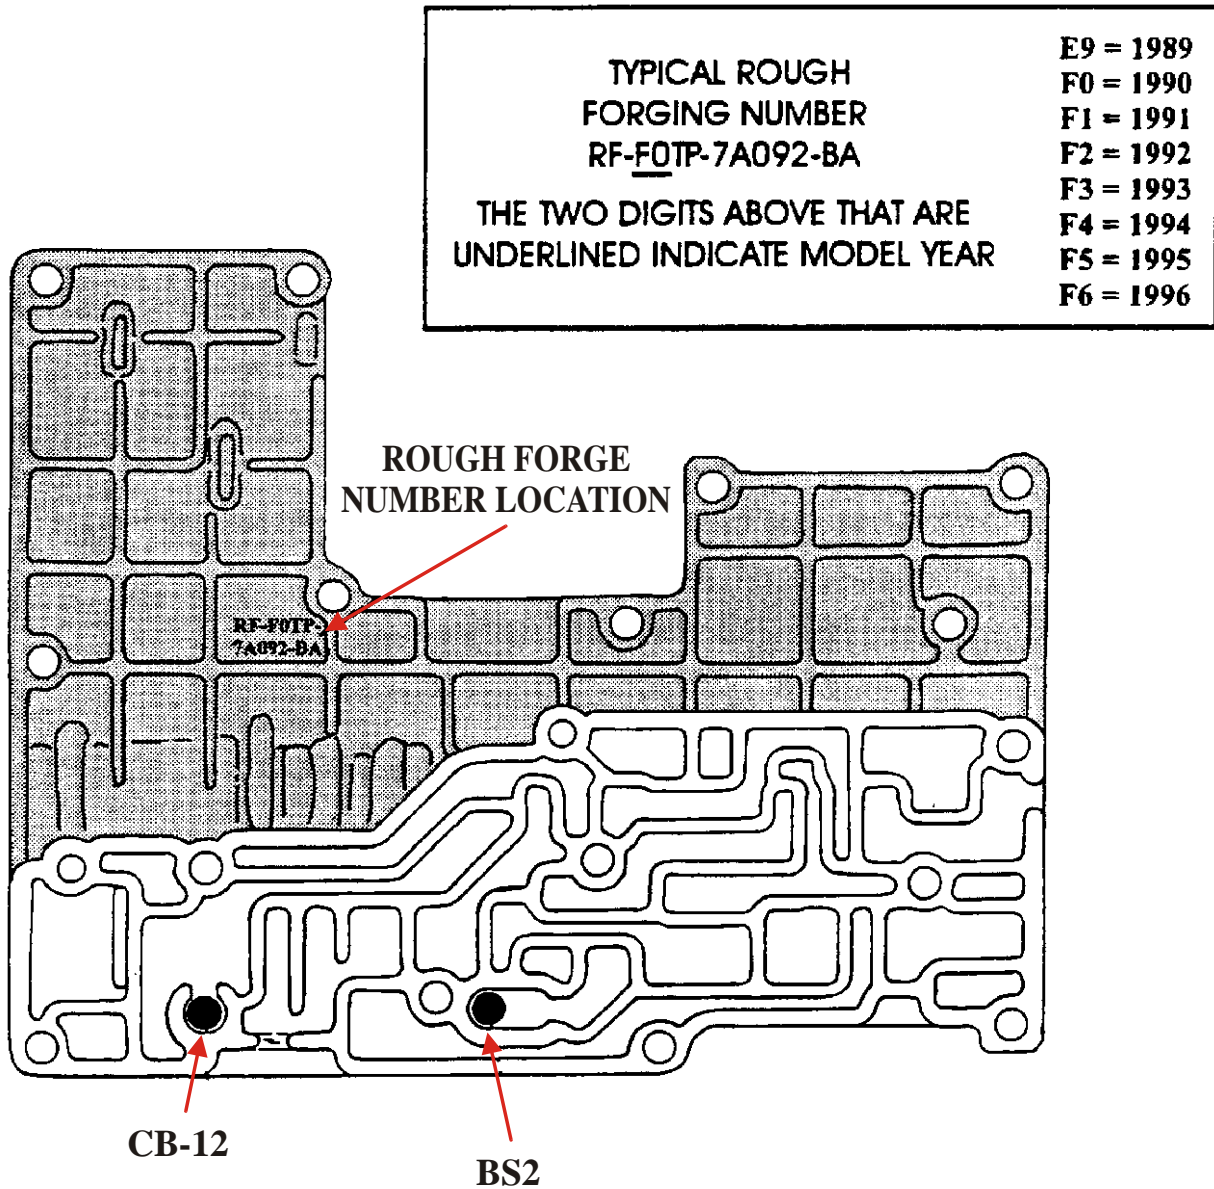
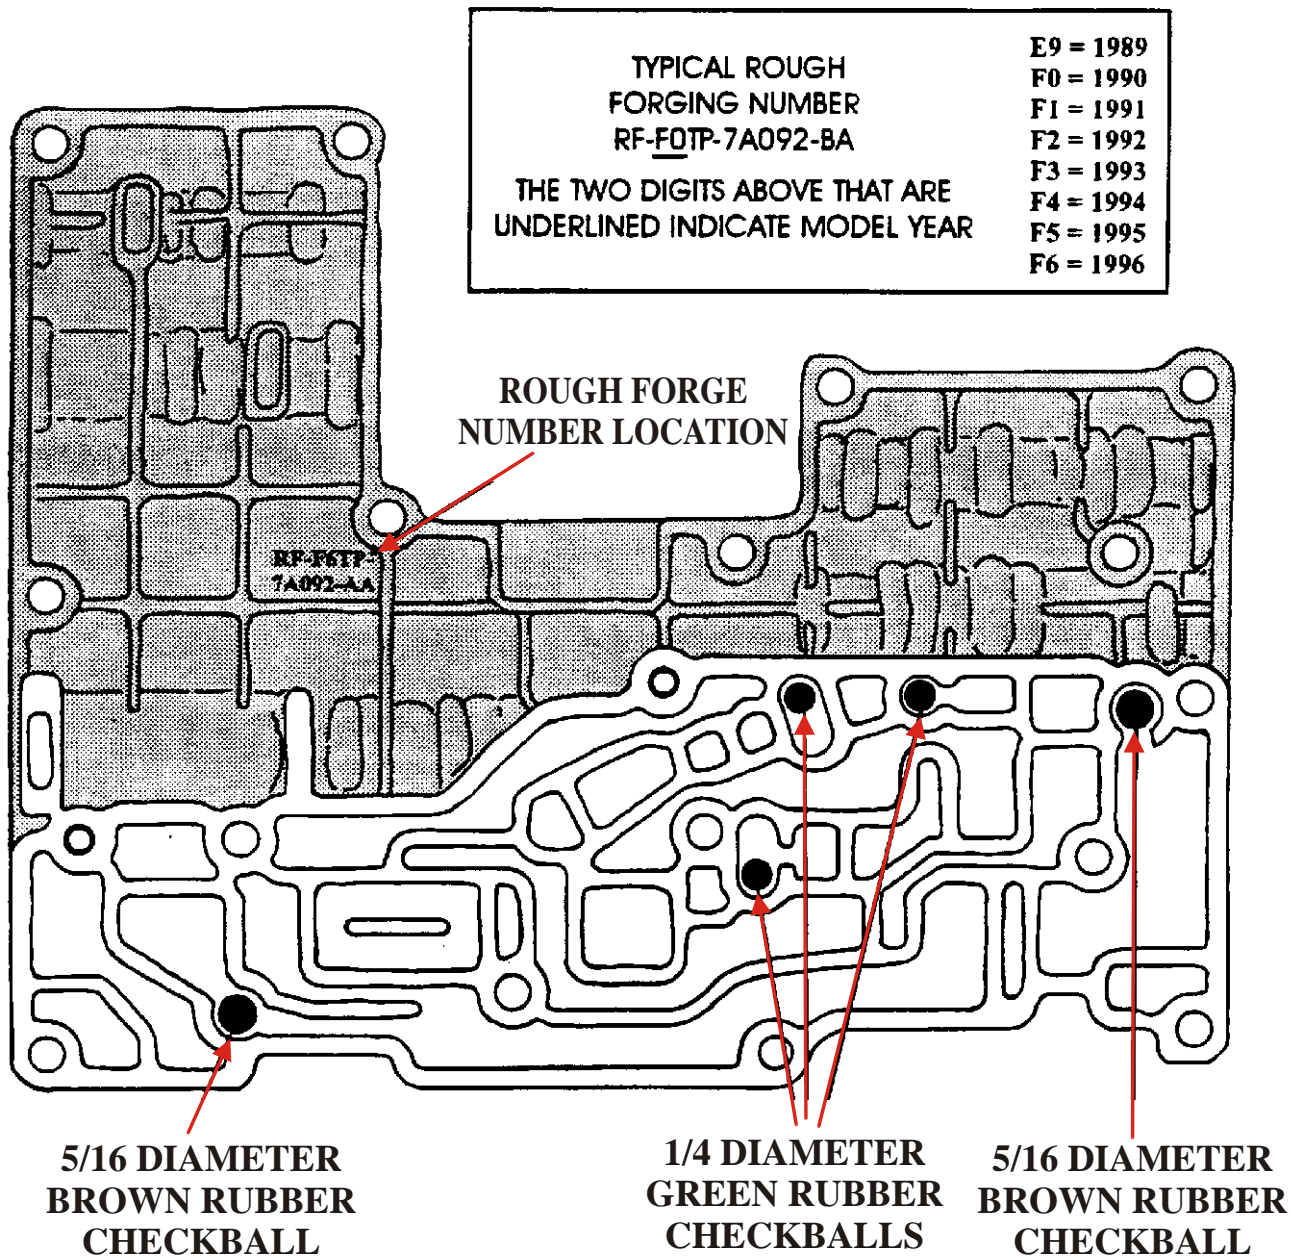
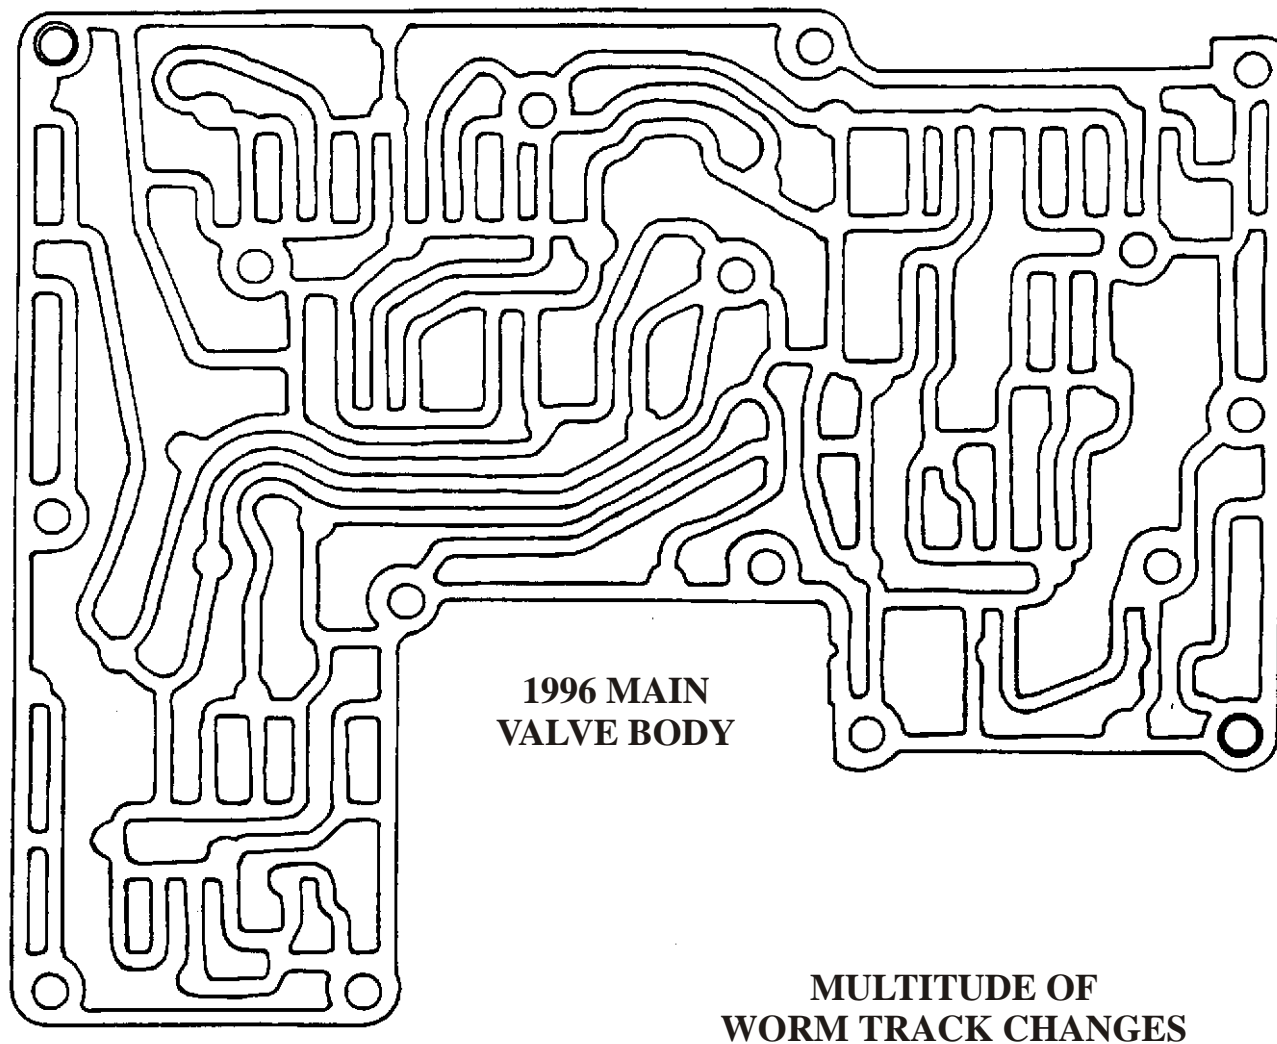
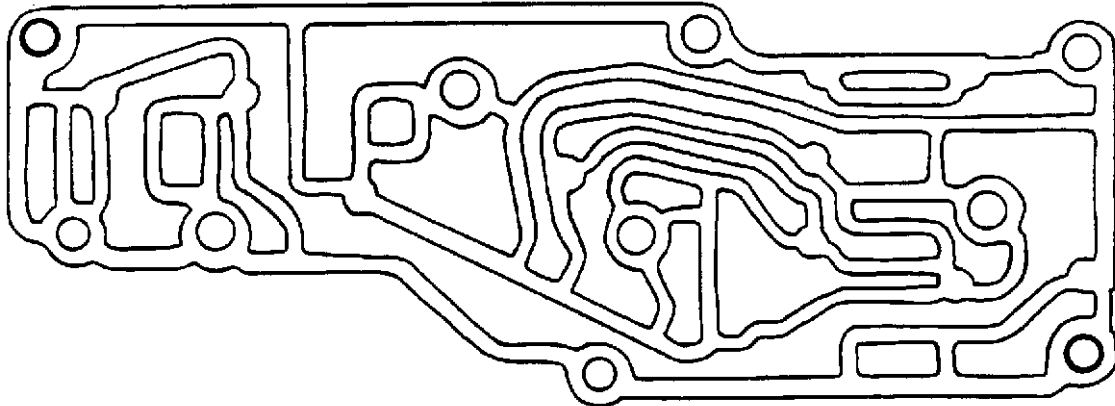

Figure 1
Figure 2
Figure 15
Figure 17
((1) VALVE BODY CHECKBALL LOCATIONS - Have remained the same for 1989 thru 1995 model years, with TWO 5/16" rubber checkballs, and their locations are shown in Figure 1. Beginning in the 1996 model year there are FIVE checkballs in the main valve body and their locations are shown in Figure 2. Notice that there are two 5/16" rubber balls and three 1/4" rubber balls. The 1/4" rubber balls are green in color (See Figure 2).
1989 Models Only - Can be identified by the differences in the worm track area at the 1-2 shift valve, as shown inside the circles in Figure 14. The best, and most accurate method to identify the valve body, is the rough forging number cast into the valve body in the location shown in Figures 1 and 2.
90-95 Models only - Can be identified by the differences in the worm track area at the 1-2 shift valve, as shown inside the circles in Figure 14. The best, and most accurate method to identify the valve body, is the rough forging number cast into the valve body in the location shown in Figures 1 and 2.
1996-UP Models only - Has a multitude of worm track location differences from the previous models, as shown in Figure 15. The best and most accurate method to identify the valve body, is the rough forging number cast into the valve body in the location shown in Figures 1 and 2.
(7) LOWER VALVE BODY - The engagement control valve retaining clip on 1989 models, was replaced by a bore plug and new design clip on the 90-95 models, which also changed the worm track configuration in that area, as shown inside the circles in Figure 17.
The 1996-Up models have a multitude of worm track location differences than the previous models, to accommodate the added valve body checkballs, as shown in Figure 17. The best, and most accurate method of identification is the rough forging number cast into the lower valve body using the formula in Figures 1 and 2.